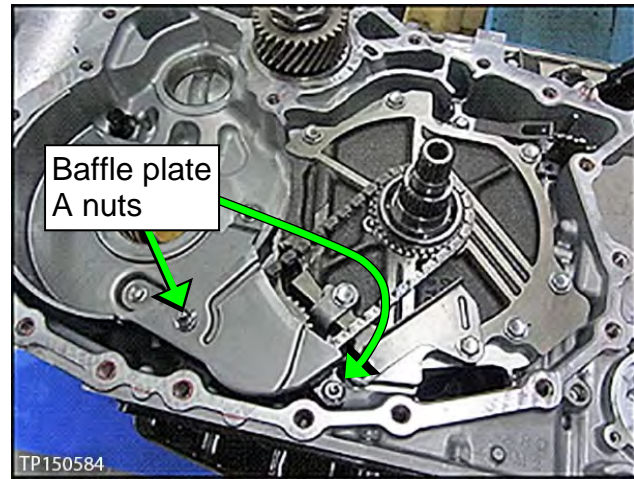

Figure 152
111. Install baffle plate A with two (2) nuts (Figure 152).